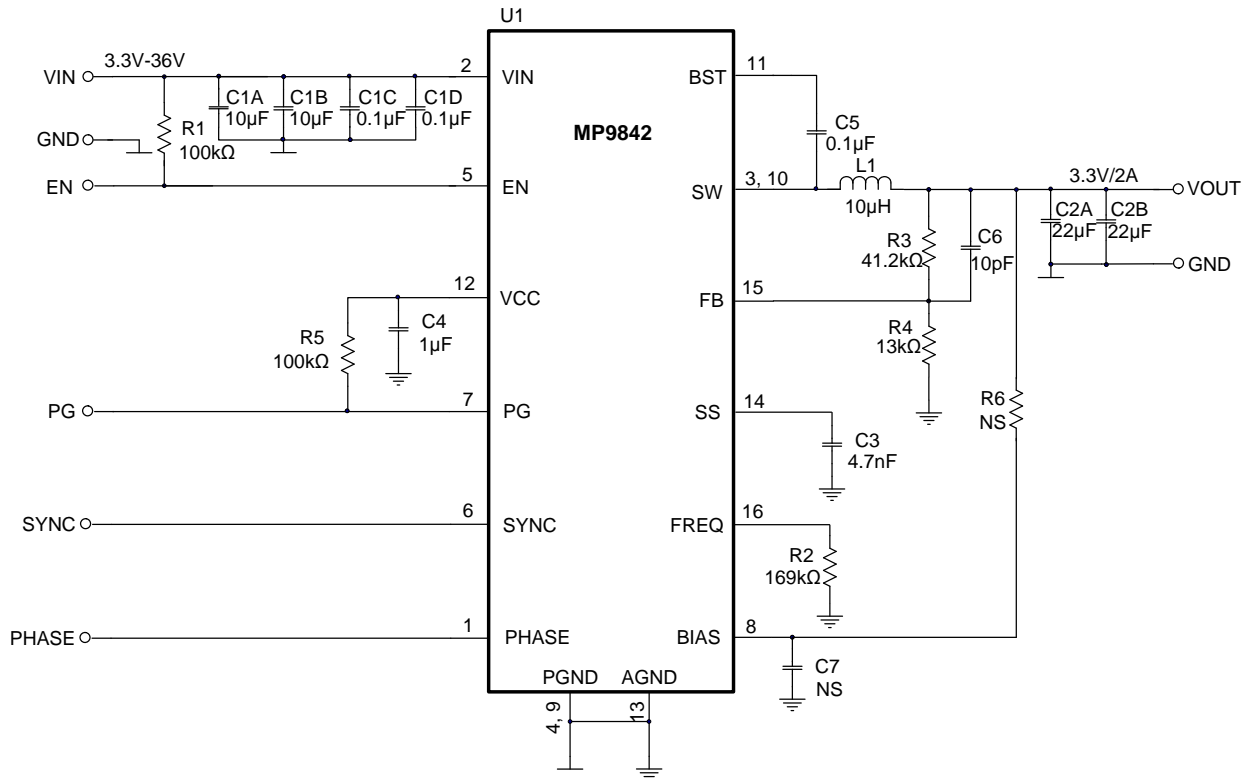

Figure 9: $V_{OUT} = 3.3V$, $F_{SW} = 500kHz$
- 6) The recommended PCB layout is based on Figure 9.